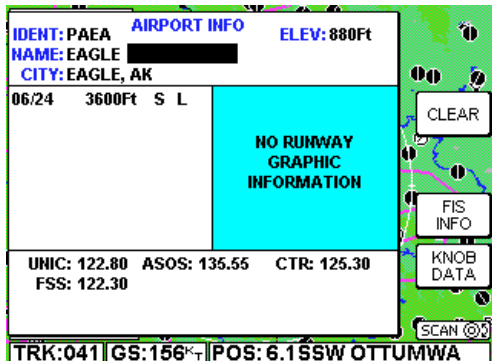

Figure 15
3. Turn the outer knob clockwise until the cursor is positioned as in Figure 15.